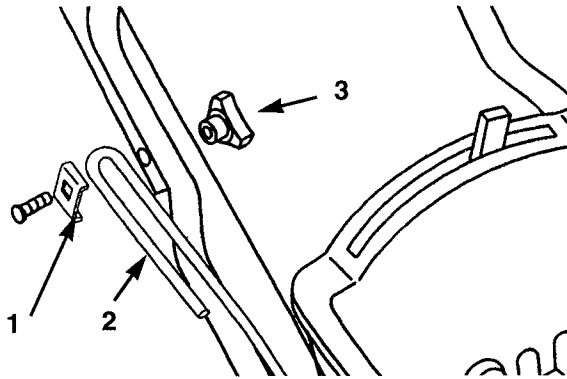

Figure 57
- C. Install the U-shaped end of the mounting rod against the outside of the mower handle, using the new bracket and the original bolt and handle knob (Fig. 57). Make sure the curved sides of the bracket fit around the mounting rod.